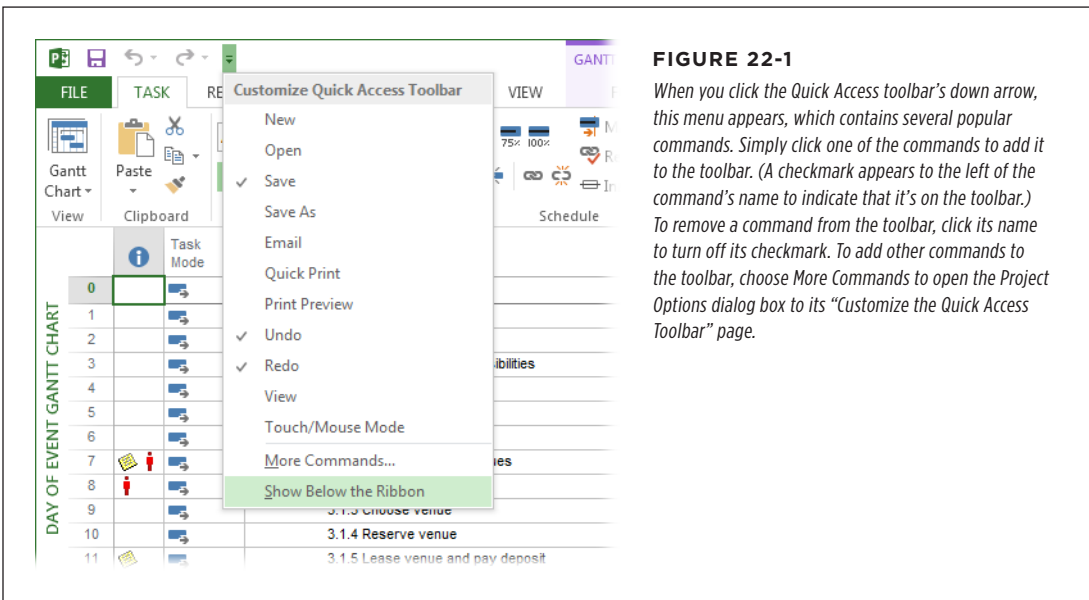

FIGURE 22-1
- **Add a command to the toolbar.** Click the down arrow to the right of the Quick Access toolbar and then choose the command you want to add. A checkmark appears to the left of the commands that are currently on the toolbar, as shown in Figure 22-1. Several popular commands, like New, Open, and Print Preview, are on the drop-down menu, so a quick click is all it takes to add them to the toolbar.